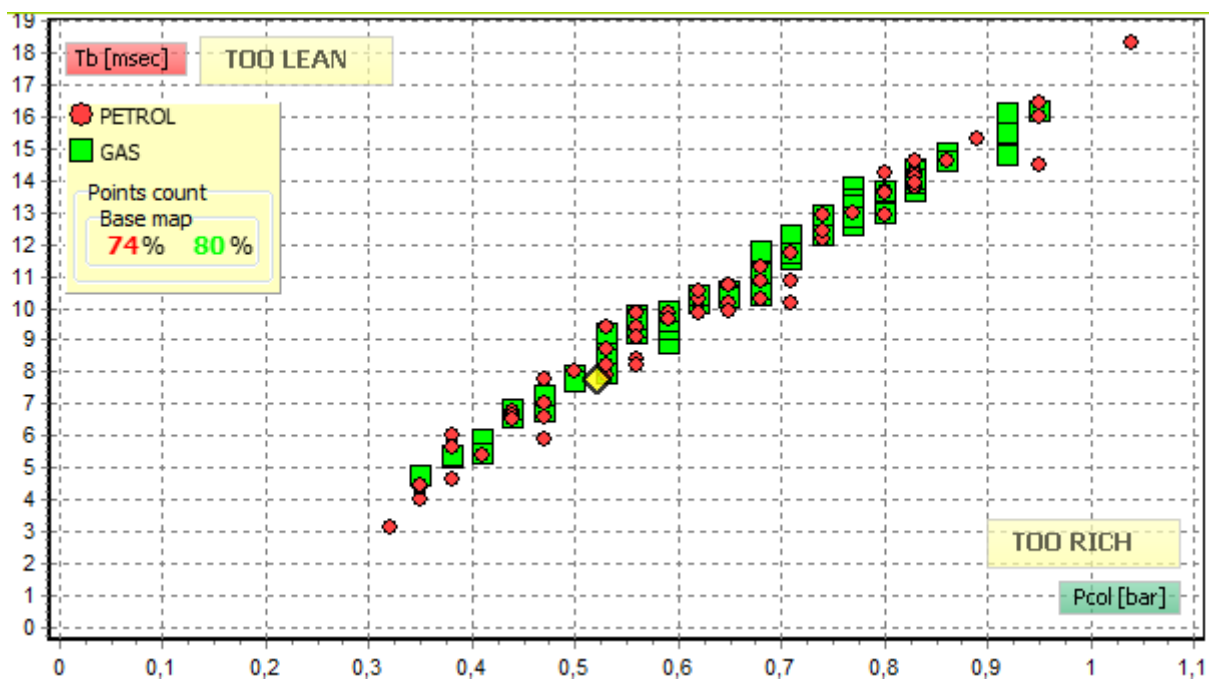

Fig. 3.48 Gas map covering petrol map.
10. Procedure should be repeated until petrol and gas maps covers completely (like on Fig. 3.48).